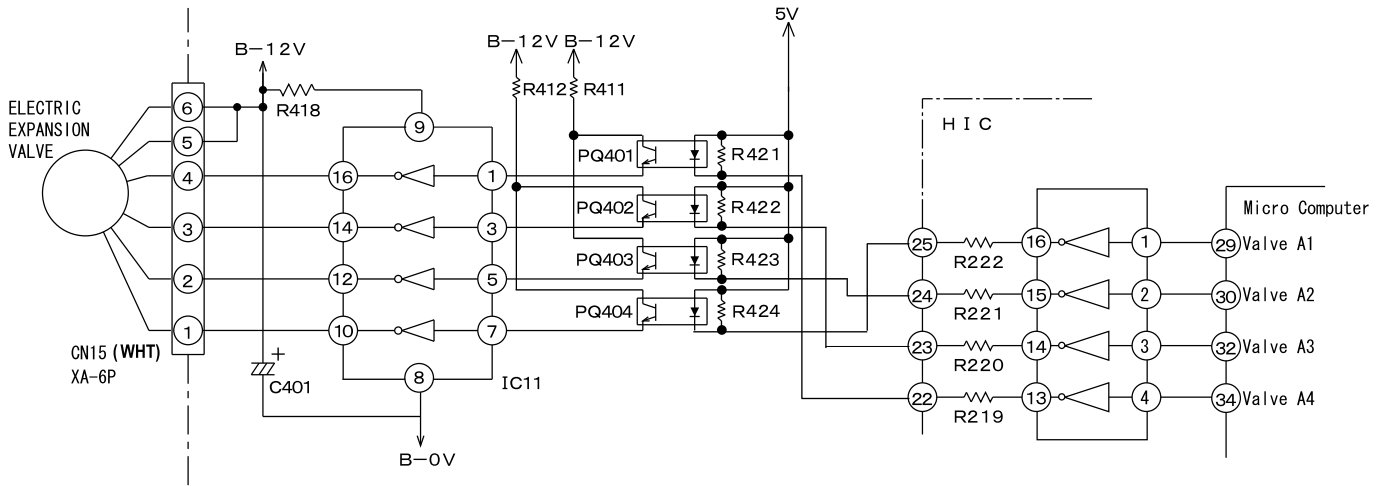

Fig. 5-1
- * Fig. 5-1 shows logic waveform when expansion valve is operating.